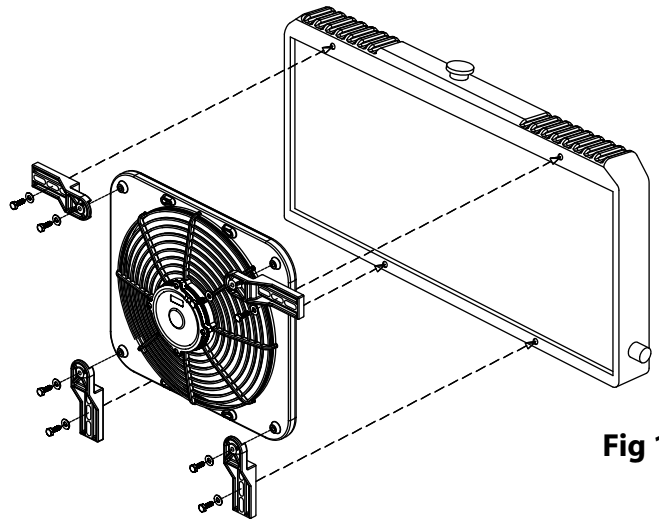
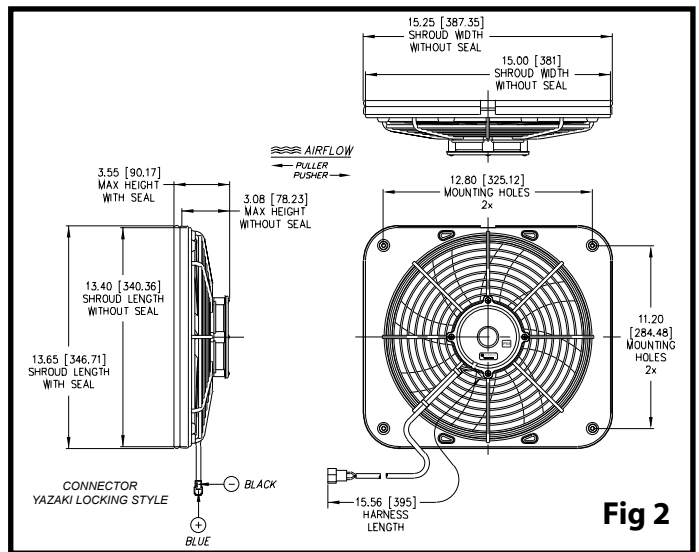

Fig 1
Fig 2
2. We do not recommend the use of nylon tie kits or any other "through core" mounting methods for this fan assembly. The 160 watt motors used in this fan assembly is too heavy and produce too much starting torque to be supported by the radiator fins. We recommend purchasing a prefabricated mounting kit **MARADYNE® MFA107** or fashioning metal brackets that will attach to at least four of the six ¼ - 20 nylon reinforced nuts pressed in the back of the shroud and then bolted to the U-channels of the radiator/heat exchanger (See Fig 1.). 1" X ¼-20 bolts are recommended to attach the brackets to the shroud. Bolts must **NOT** be long enough to contact the radiator/heat exchanger. See Fig 2 for bolt pattern.